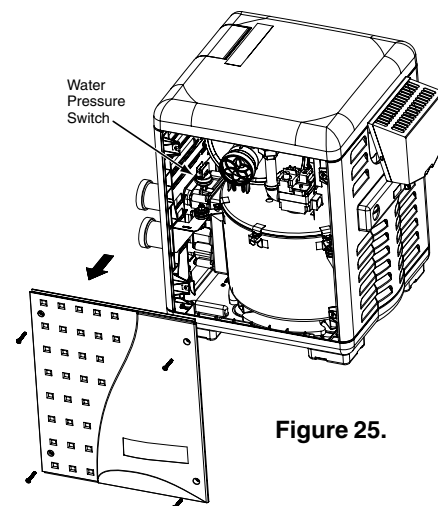

Figure 25.
5. Remove the access door panels by unfastening the four screws located on each door, then lift up and out from the bottom of the panel to remove. If necessary, the screws may be used as handles, see Figure 25.
3. Remove the access door panels, see Figure 25.